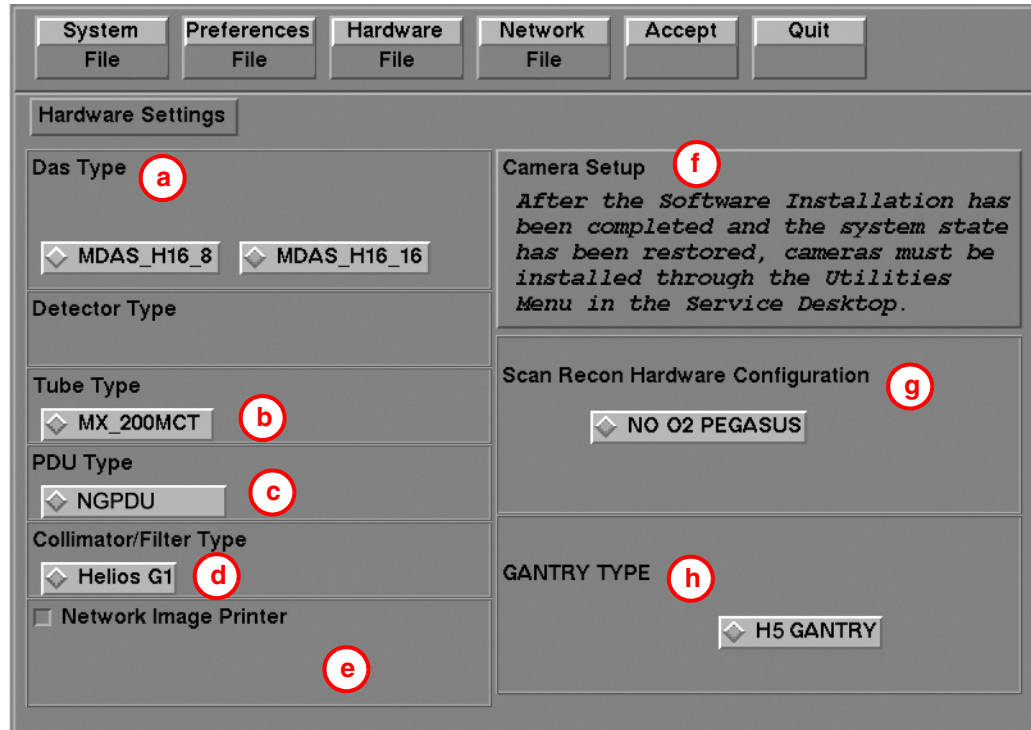

Figure 5-13 Hardware Settings Screen (example only - actual screen may vary)
- 7.) Select the HARDWARE button to display the Hardware Settings Screen (Figure 5-13).